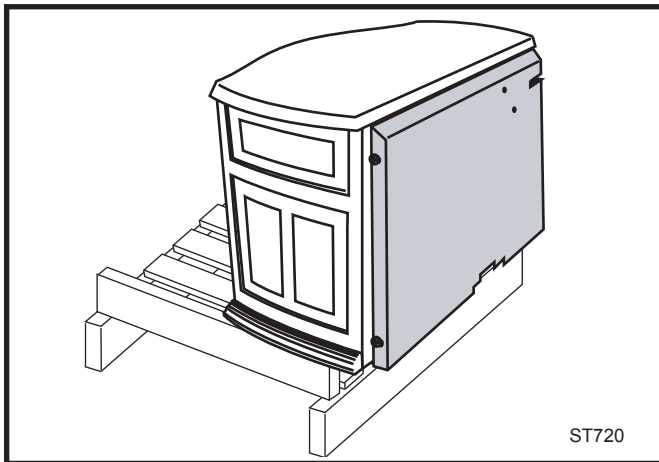

Fig. 7 Slide stove back just far enough to access rear leg holes.
1. Slide stove to the rear of the pallet just far enough to access rear leg holes. Make sure the stove does not tip over backwards. (Fig. 7)